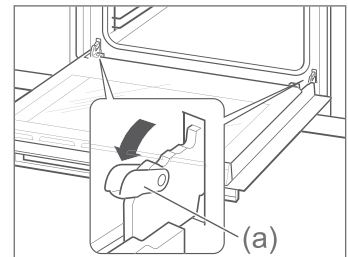

Fig.1
2. Open the two locking levers on the left and on the right outwards (a) as shown alongside (Fig.1).